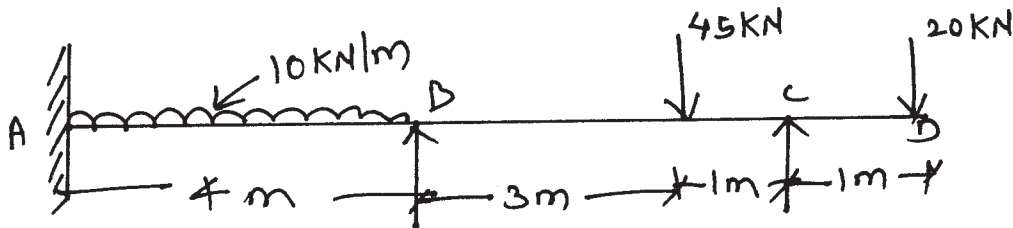

Fig. No. 4
- c) A continuous beam ABCD is loaded and supported as shown in Fig. No. 4. Using three moments theorem. Calculate support moment and draw B.M. Diagram.